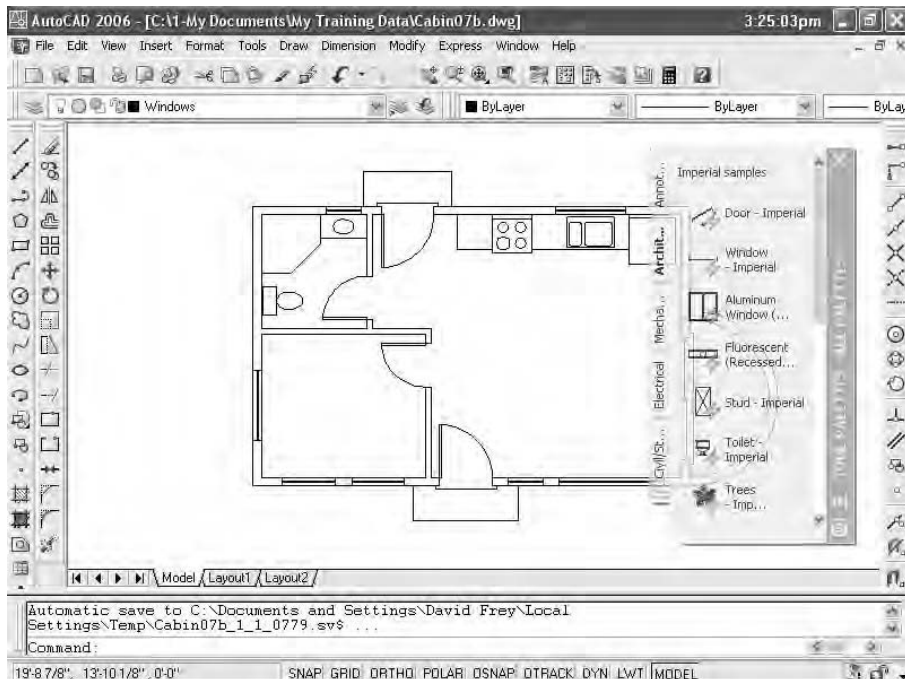

FIGURE 7.48: The palettes in transparent mode
5. Be sure the Turn Off Window Transparency check box is unchecked, and be sure the Transparency Level slider is at mid-position or on the More side. Then click OK. Now the drawing is visible through the palette (see Figure 7.48).